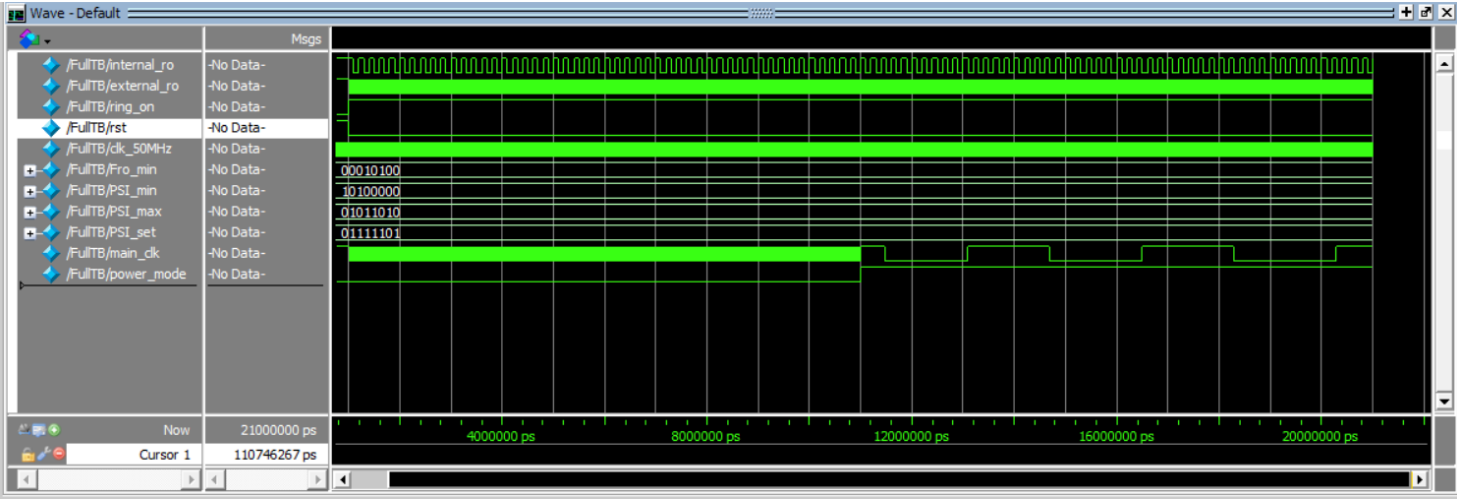

Fig. 8 Full Design waveform
*B. As you can see in figure 8, when we issue power mode flag our main clock will be external ring oscillator output otherwise it will be PSI(noise eliminated and adjusted internal oscillator).*